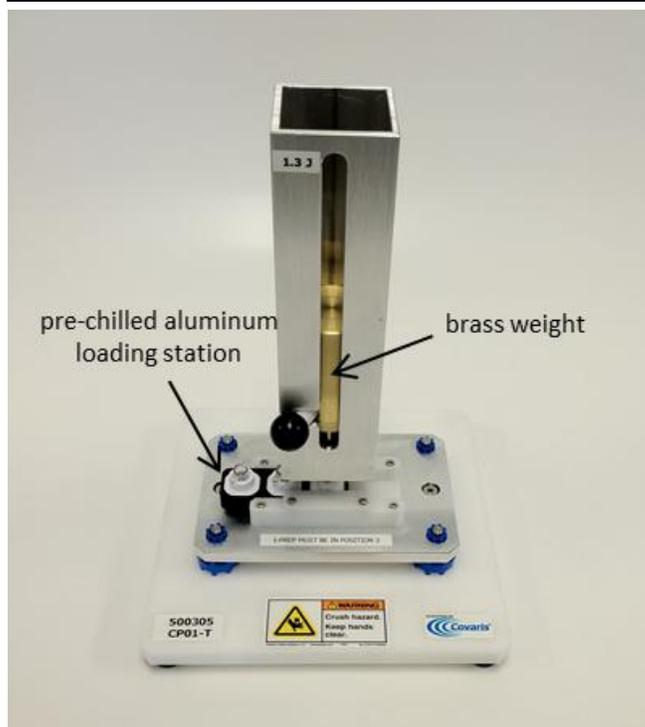

Figure 2. The Manual CryoPrep for cryofracturing of frozen samples in the t-PREP. The pre-chilled metal tray keeps the t-PREP Device cold during processing.
8. Place the loading station in the t-PREP Impactor and position the t-PREP to be impacted under the piston as shown in Figure 2. The loading station is indexed to correctly position each t-PREP under the impactor. Push the loading station into the impactor until the loading station 'clicks' into position.